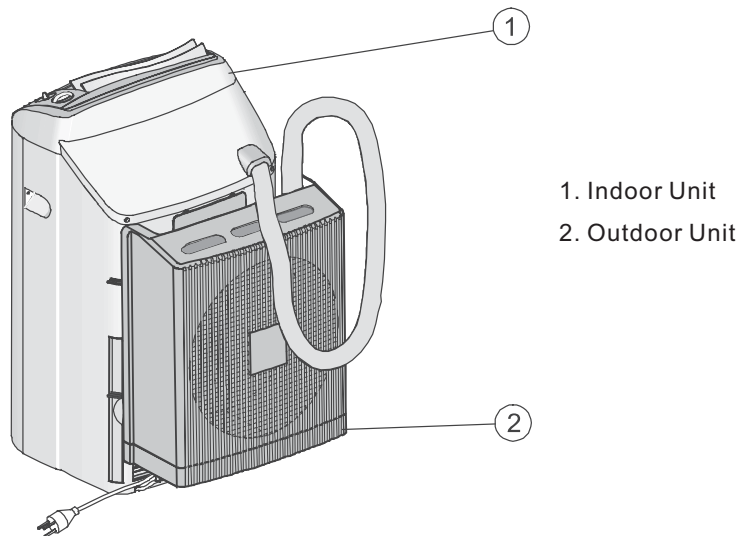

Figure 25. Units joined for moving - Model 3.1 KW (R407C) only
☐ MOVING AND STORING - ALL MODELS (See Figure 25)
The indoor and outdoor units should be joined together (Figure 25) when moving or storing the air conditioner. To join the units, insert attaching pins (10) of the outdoor unit into the key holes (2) of the indoor unit (see Figure 3).